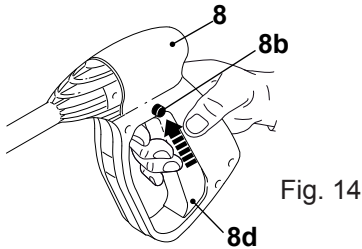

Fig.14, trigger lock activated, the trigger is locked in the off position
1. Activate the trigger lock by pressing the activate button (8b) when the product is not in use, when it is left unattended or when setting the product down (Fig. 14).
**Note:** The spray gun (8) is equipped with a trigger lock in order to prevent accidental activation of the trigger (8d). Activate the trigger lock when the product is not in use, when it is left unattended or when setting the product down (Fig. 14).